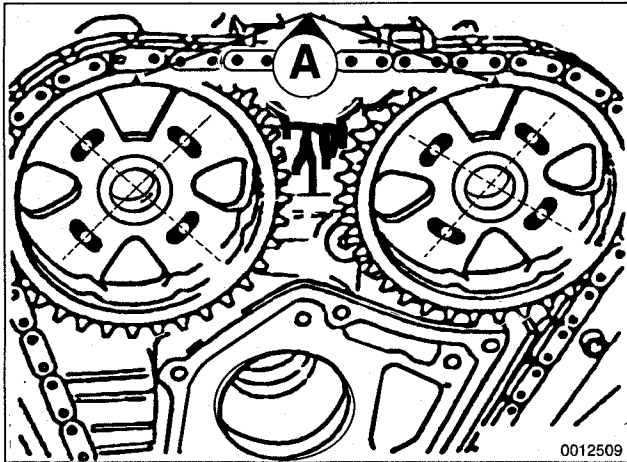

Fig. 20. Camshaft chain sprockets installed with arrows (A) pointing up and camshaft threaded holes centered in slotted holes.
- Place chain sprockets with chains on camshafts so that arrows on sprockets point up and elongated holes in sprockets are centered to tapped holes in camshafts. See Fig. 20.